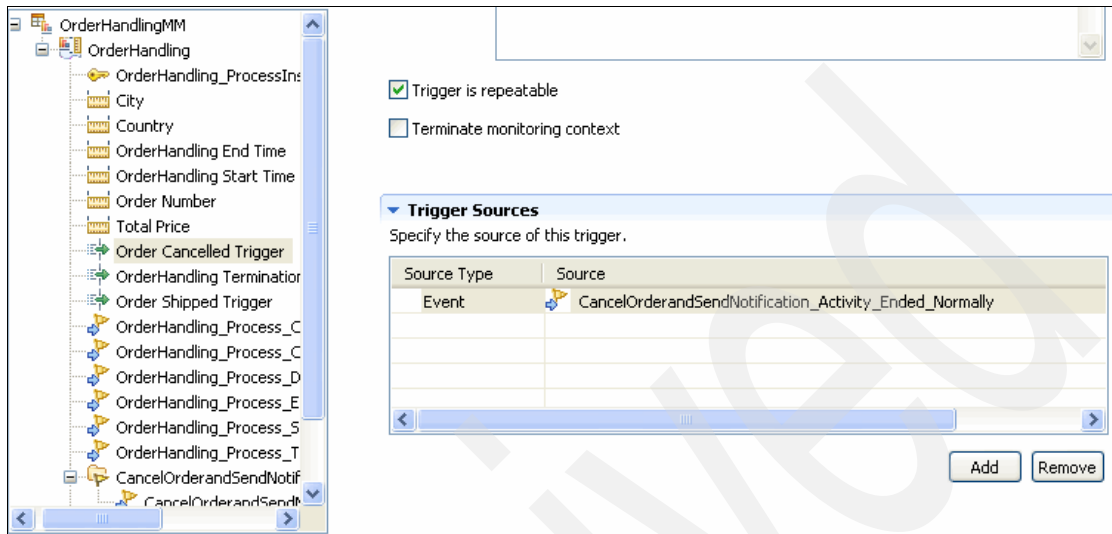

Figure 8-71 Adding the Order Cancelled Trigger
15. In similar way, add an Order Cancelled Trigger with source CancelOrderandSendNotification_Activity_Ended_Normally as shown in Figure 8-71.